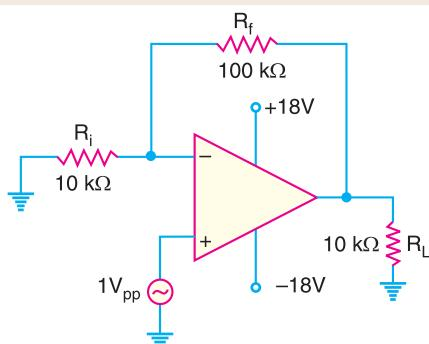

Fig. 25.60
**Example 25.35.** For the noninverting amplifier circuit shown in Fig. 25.60, find (i) closed-loop voltage gain (ii) maximum operating frequency. The slew rate is 0.5 V/μs.